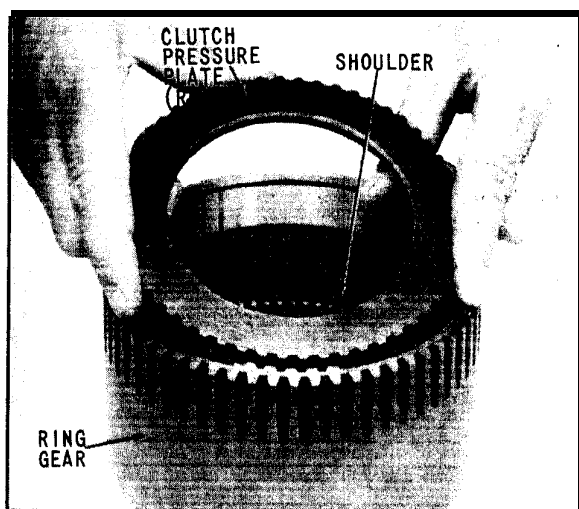

Fig. 34 Installing Clutch Pressure Plate (Rear)
23. While holding ring gear, tap with soft blunt tool on exposed face of forward clutch cylinder inside of ring gear. Forward clutch cylinder will move forward to disassemble out of front of ring gear. After removing the clutch spring and the clutch spring snap ring, all parts of the forward clutch can be disassembled as shown in (Figs. 34, 35, 36, 37 & "38).
18. Place the ring gear on a clean surface with the external teeth up, as shown in (Fig. 34).
19. Remove all dirt and solid particles from the shoulder inside the gear formed by the top of the internal helical gear, (Fig. 34).
20. With the smoothly ground face in the upward position, install the clutch pressure plate (rear) in the ring gear, as shown in (Fig. 34). Assembly is complete when the clutch pressure plate is firmly and squarely seated on the shoulder at the bottom of the internal splines.